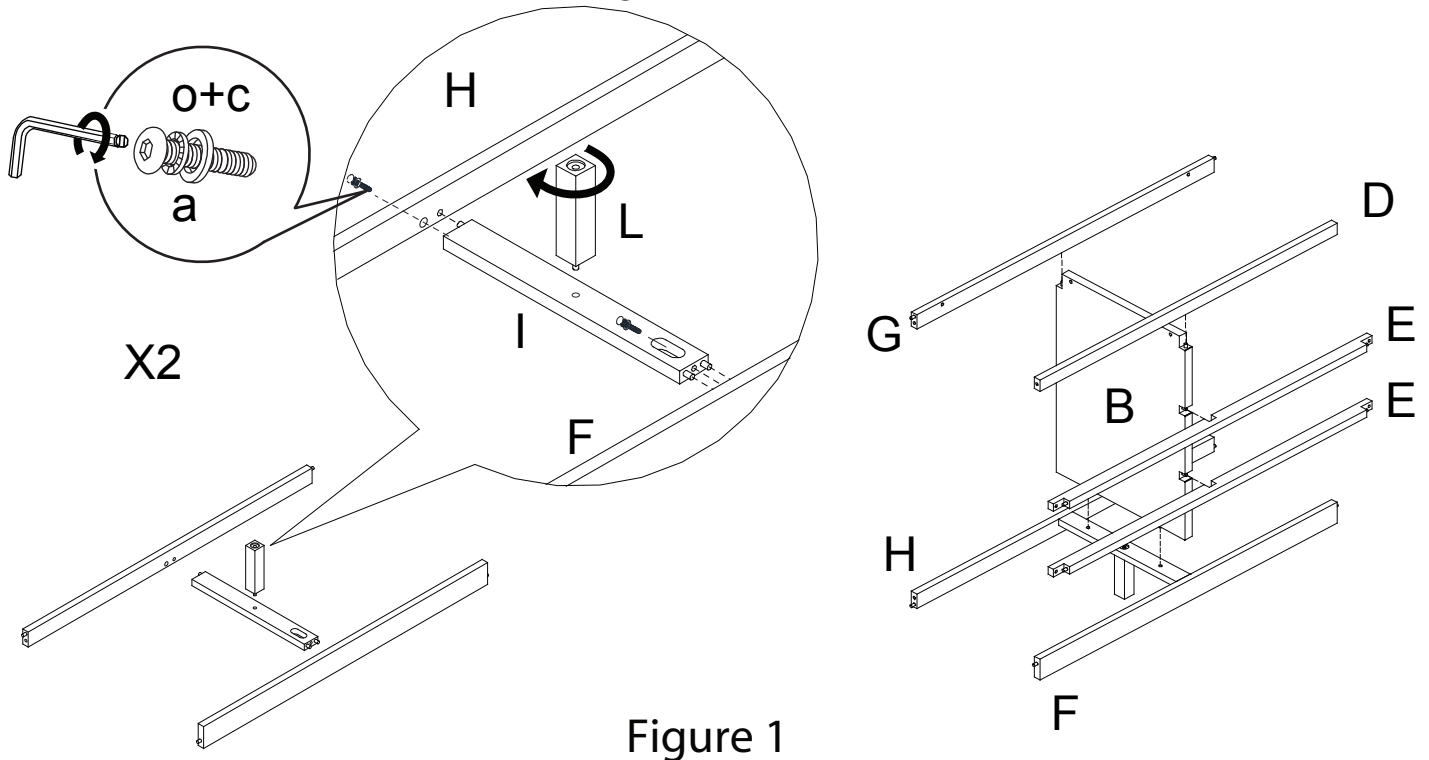

Figure 1
- ① Attach Front Top rail (D) & Front Middle rail (E) & Front bottom rail (F) & Rear Top rail (G) and Rear bottom Rail (H) to Middle Panel (B) as Figure 1.
1. Working on a padded flat surface, attach Drawer Sides (R1&R2) to Drawer Back (R3) with Philips Head Screw(g). *Figure 1*